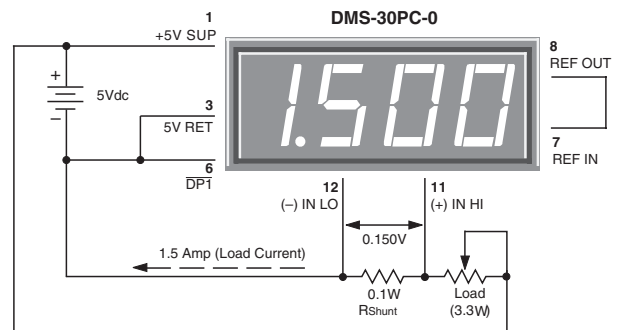

Figure 9. Basic DC Ammeter Circuit
7. Digital Ammeter: Digital ammeters are finding ever-increasing usage because analog-style ammeters (moving-vane types) now cost roughly the same as their digital counterparts. Additionally, analog ammeters are not nearly as rugged as modern digital panel voltmeters. Figure 9 illustrates a typical ammeter application. The circuit uses a ± 200 mV input meter — the preferred range for most ammeters — to measure the voltage developed across a 0.1Ω current shunt. The circuit shown represents a basic ammeter connection diagram. A detailed application note describing digital dc ammeters is included in DATEL's new Digital Panel Meter Databook.